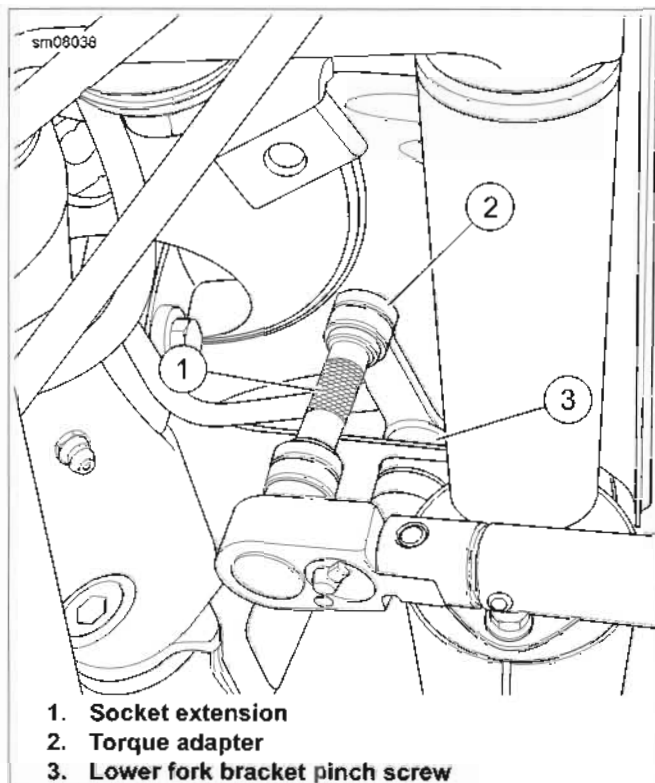

Figure 1-42. Accessing Lower Fork Bracket Pinch Screws
13. See Figure 1-42. Using a ratchet handle, socket extension (1) and a torque adapter (2), loosen, but do not remove, lower fork bracket pinch screws (3).
See Figure 1-42. The torque adapter must be positioned at a 90 degree angle to the torque wrench handle to obtain an accurate torque reading.